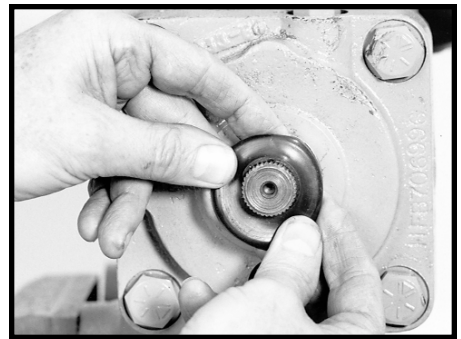

Figure 159
54. Apply more of the special grease to the cupped side of the new seal protector (62) and assemble it, cupped side in on to the worm shaft/input shaft (16) and into the serration relief groove. SEE FIGURE 159.